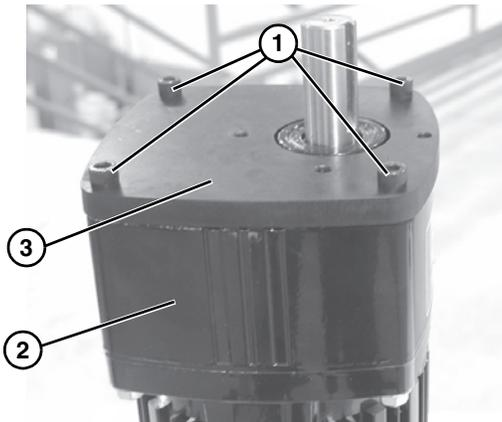

Figure 11
7. Remove four (4) screws (**Figure 11, item 1**) and detach motor (**Figure 11, item 2**).
8. Install mounting plate (**Figure 11, item 3**) on new motor with screws (**Figure 11, item 1**) and tighten to 75 in-lbs (8.5 N-m).